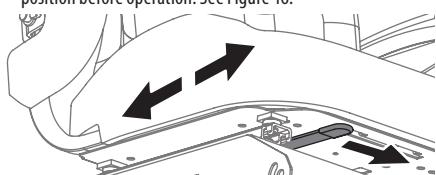

Figure 16
- Release the adjustment lever. Ensure seat is locked into position before operation. See Figure 16.